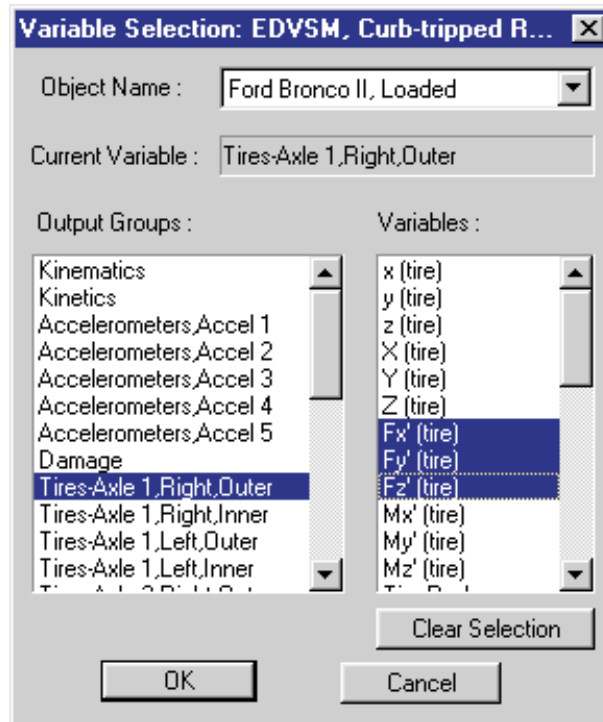

Figure 5-9 Key Results Variable Selection dialog, used for selecting variables to be displayed in the Key Results window
- Click *Tires, Axle 1, Right, Outer* from the variable group list. The Variable Selection list for the right front tire is displayed (see Figure 5-9).